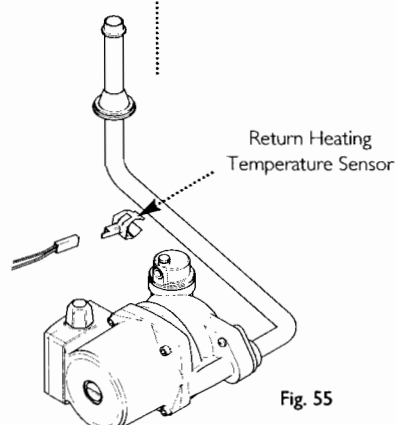

Fig. 55
12.12 Return Heating Temperature Sensor (Fig. 55)